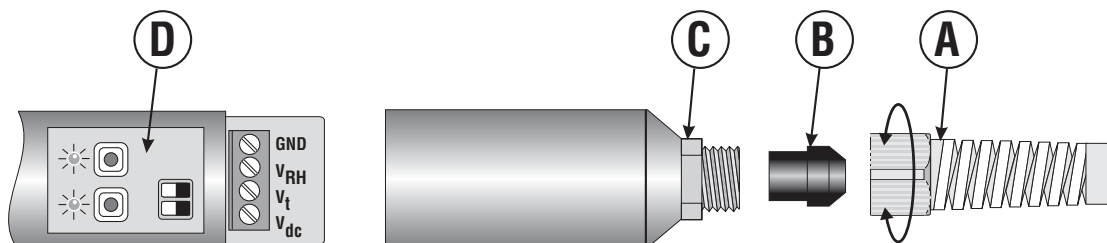

Fig. 3
Follow these procedures to access the transmitter terminal board (see fig.3):
1. To access the panel board, unscrew grommet "A" (see fig. 3) and hold the cable firmly to avoid twisting. Take off the rubber bulb and unscrew the bottom of the instrument.
1. To access the panel board, unscrew grommet "A" (see figure 3) and hold the cable firmly to avoid twisting. Take the rubber bulb off and unscrew the bottom of the instrument.